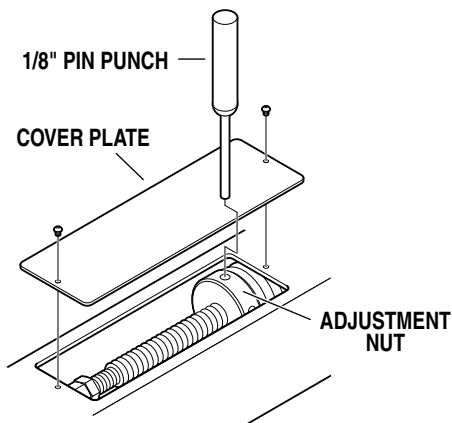

Figure 13.
c. Install the (2) sterilizable positioning handles.
e. Check the vertical tension adjustment of the Height Adjustable Arm for its capacity to support the flatscreen monitor throughout its range of motion. The monitor should move freely yet maintain its selected position without drifting. If an adjustment is necessary, refer to figure 13 and proceed as follows: